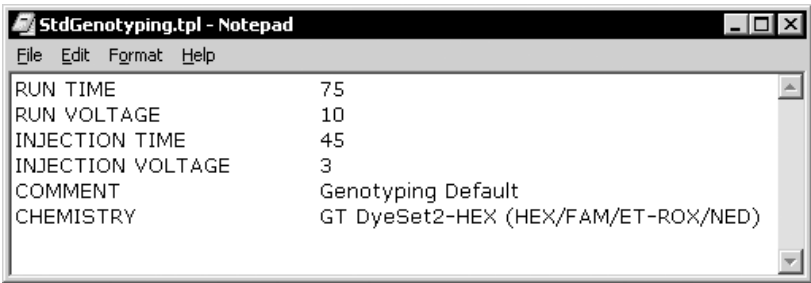

Figure 9-2. An example of a plate setup template file (.tpl) for STR genotyping.
2. Type the field names in the first column (field column), and type the values for each field in the second column (value column). Make sure the field column and value column are separated by a tab. See table 9-1 for a list of the recognized fields for the plate setup parameters. Figure 9-2 shows an example of a plate setup template file (.tpl).